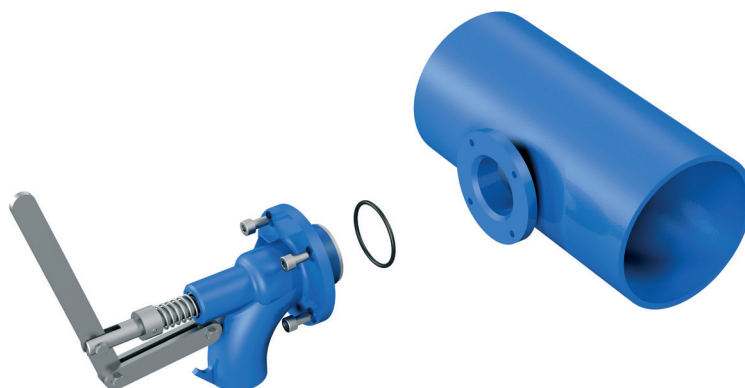

Fig. 2
2.- Weld the coupling to the pipe. The coupling is prepared for installation in vertical or horizontal piping. It is important to ensure that the holes in the valve's fastening flange are in the required position. (fig.2)